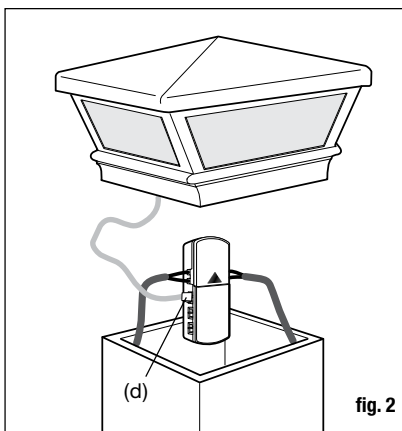

fig. 2
1. Plug the male end of the clip (d) into one of the junction box outlets and place the post cap onto the post (fig. 2).